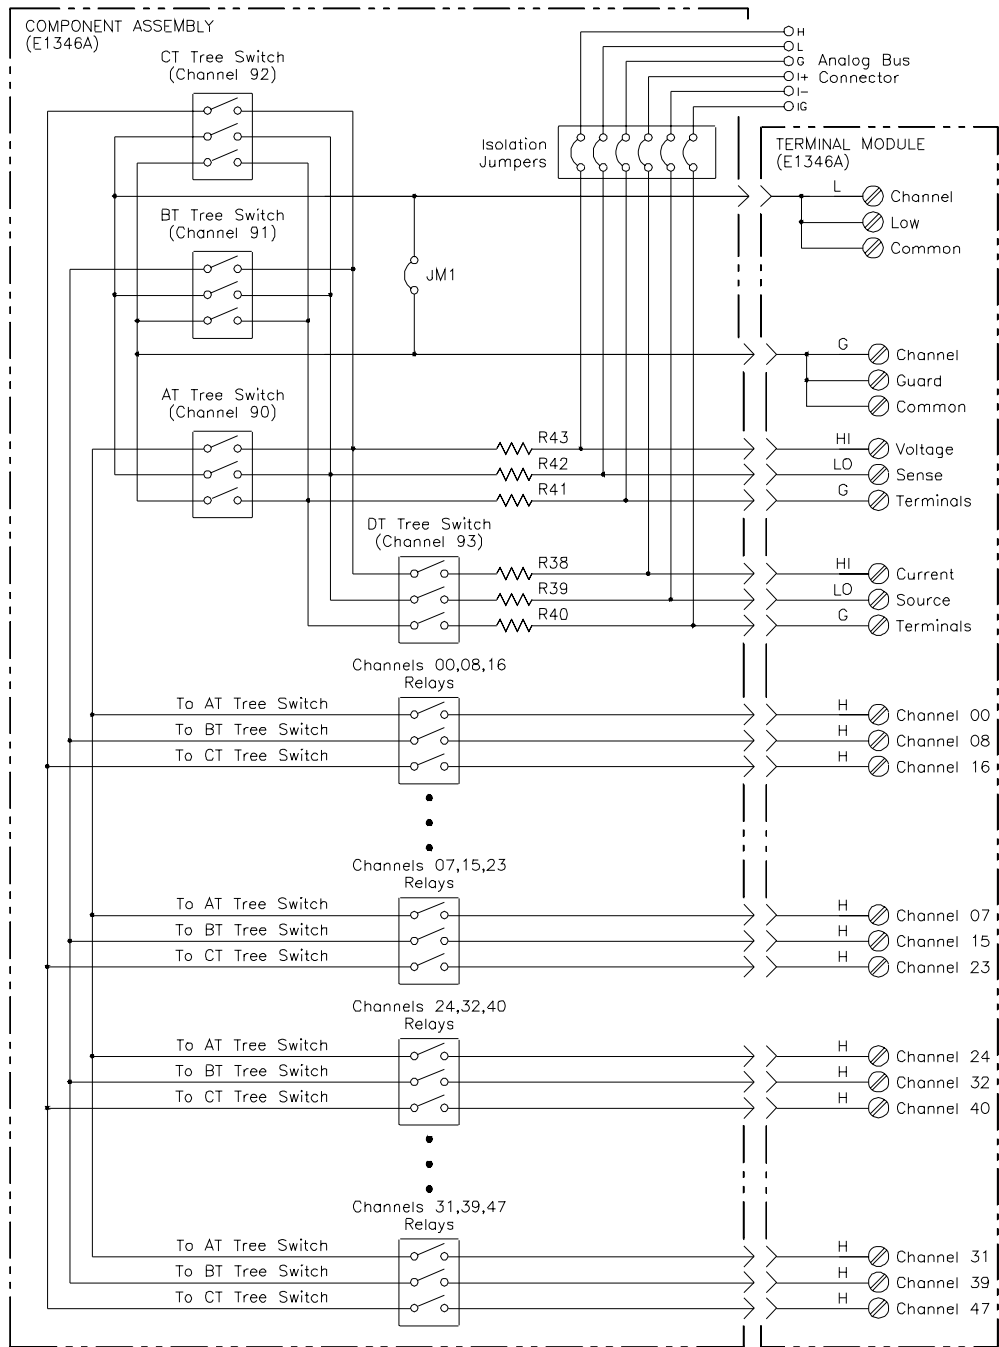

Figure 4-1. Agilent E1346A Block Diagram
The Agilent E1346A 48-Channel Single Ended Relay Multiplexer consists of an E1346A component assembly (E1346-66201) and a terminal block. The multiplexer provides switching (multiplexing) for 48 channels (channels 00 to 47). Each channel switches only a high (HI) connection. The Low (LO) and Guard (G) connections are common for all channels. The Low and Guard are switched, however, by the tree switches. See Figure 4-1 for a block diagram of these modules.